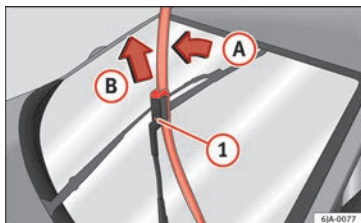

Fig. 136 Windscreen wiper blades.
- Lift the windscreen wiper arm away from the glass moving the blade slightly in the direction of the arm – arrow (A) » Fig. 136.
- Unlock the catch ① with the other hand and remove the blade in the direction of arrow (B).